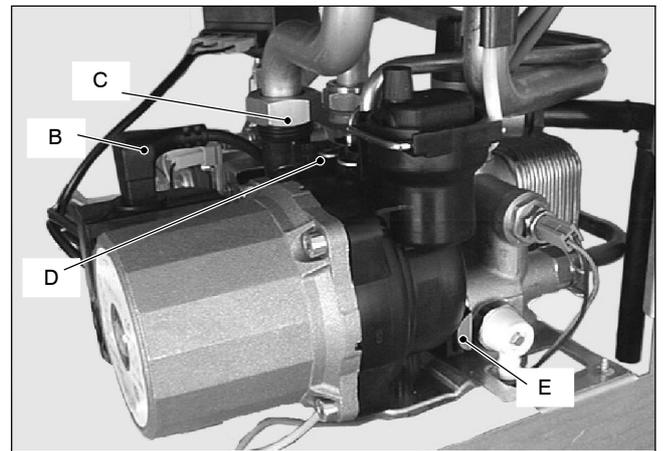

Fig. 2
- 4 Disconnect the connector B (Fig. 2).
- 7 Remove the locking plate E right (Fig. 2).